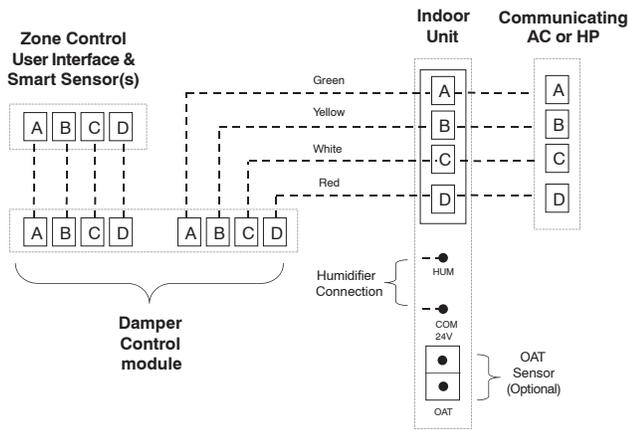

Fig. 11 - Communicating Indoor Unit w/2-Stage Puron Refrigerant Communicating Outdoor Unit
8. Match and connect thermostat wires to proper terminals on User Interface backplate. See wiring diagram Fig. 11, 12, and 13.
See wiring diagrams Fig. 11, 12, and 13 for connecting the Infinity Zone Control and Smart Sensors to the Damper Control Module. More information regarding Damper Control set-up and wiring can be found in Damper Control Module Installation Instructions.
See wiring diagram, Fig. 11, which includes an indoor communicating furnace or FE fan coil, with a 2-stage Puron refrigerant communicating outdoor unit. No additional OAT (outdoor air temperature) sensor is required because the Infinity Zone Control will use the temperature sensor inside the outdoor unit.